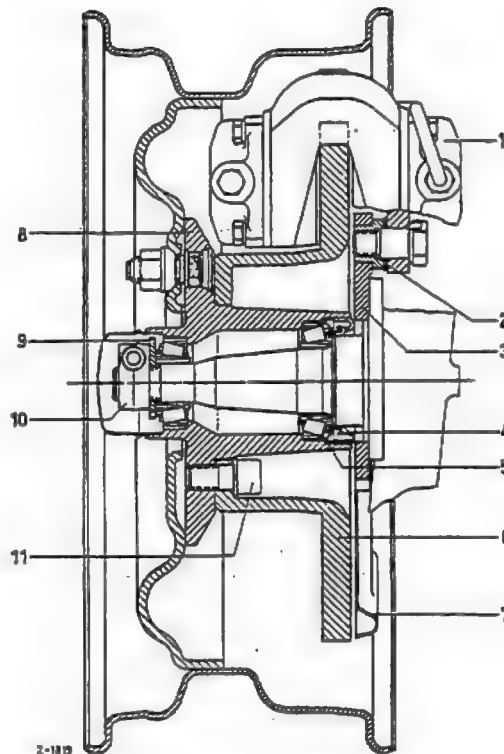

Fig. 42-7/3
3. Attach the brake caliper to the bracket making sure that a new locking plate is used and in the case of a 1st version steering knuckle that the shims are reinstalled between bracket and fixing eyes of the brake caliper in the same way as before (Figs. 42-7/2 and 7/3).